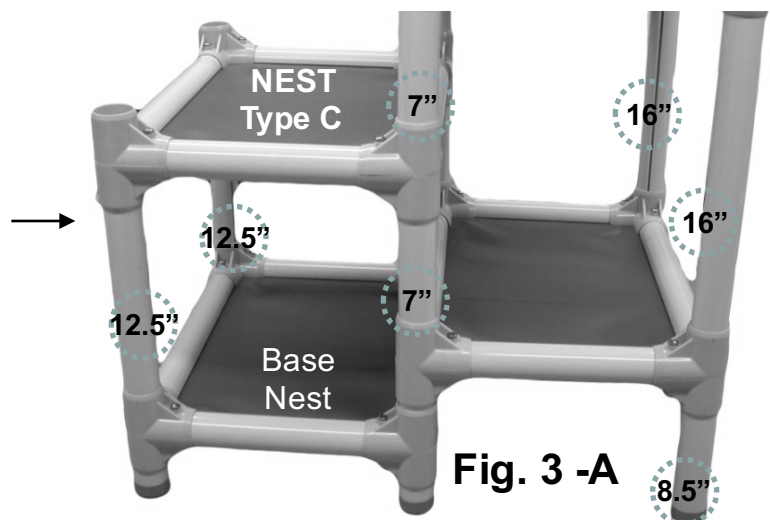

Fig. 3 -A
Insert (2) 7" legs into the center openings of the top nest. See Fig. 3-A